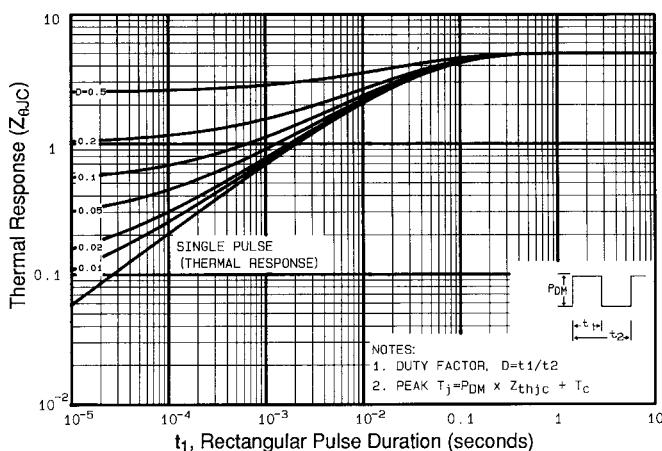

Fig 11. Maximum Effective Transient Thermal Impedance, Junction-to-Case
① Repetitive rating; pulse width limited by max. junction temperature (See Figure 11)
③ $I_{SD}\leq 2.6\text{A}$, $di/dt\leq 70\text{A}/\mu\text{s}$, $V_{DD}\leq V_{(\text{BR})\text{DSS}}$, $T_J\leq 150^\circ\text{C}$